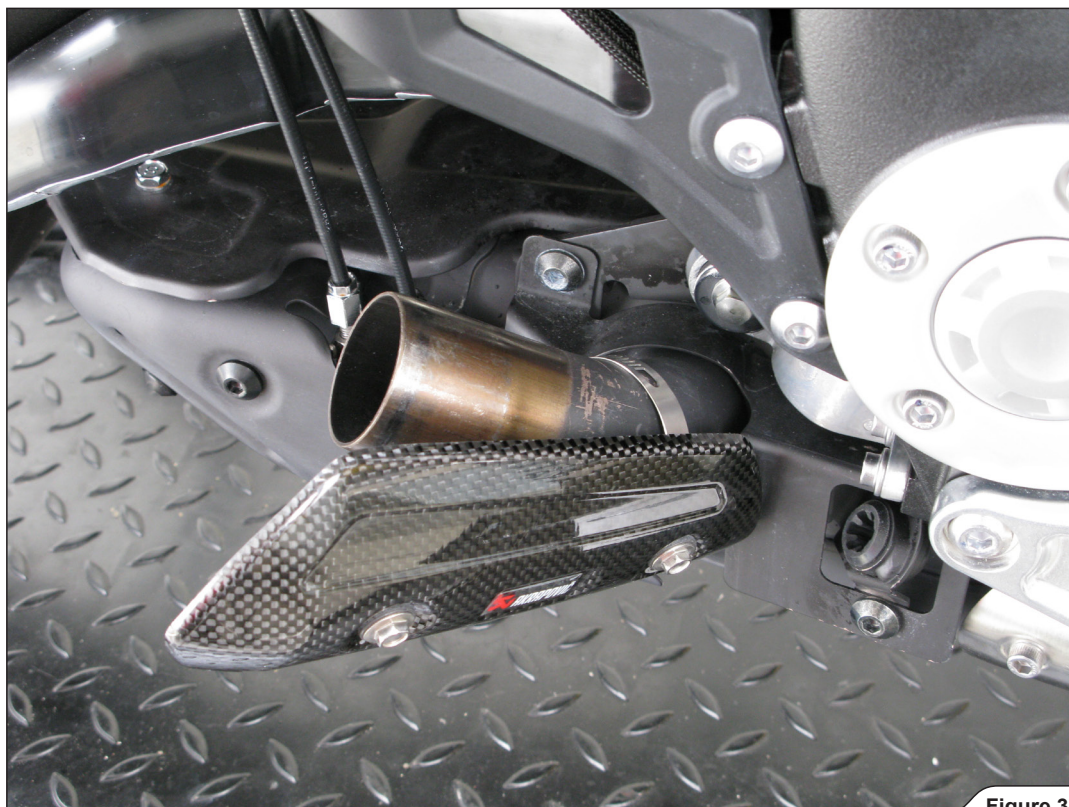

Figure 33
8. **For STREET LEGAL SLIP-ON only:** correctly position the Akrapovič carbon-fiber heat shields and slide them onto the catalytic converter box (**Figure 33**).